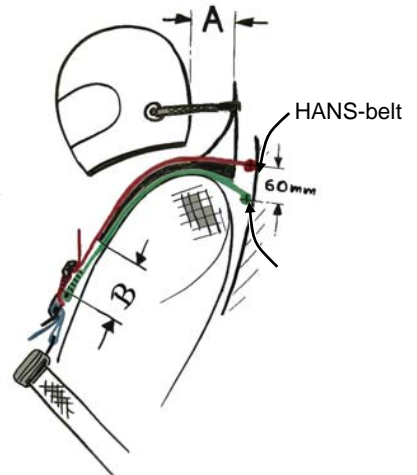

Figure 1
- The total of both numbers (A plus B in Figure 1) has to be 180 mm.
- b) Driver's head/helmet must be pulled forward until the tethers are straight. Measure the distance between the Head and Neck Support collar and the helmet = measure **A** in Figure 1.
- c) Subtract **A** from 180 mm = measure **B** in Figure 1. This is the minimum distance which must be achieved between the Head and Neck Support yoke tips and the belt merge.